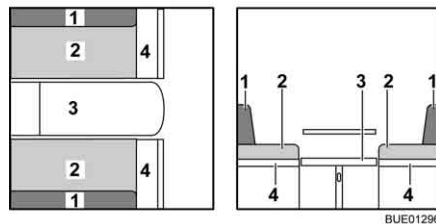

Fig. 119 During conversion
- Widen bench seat (Fig. 119,4).
- Remove the back cushions (Fig. 119,1) and lay them aside.
- Pull the seat cushions (Fig. 119,2) into the centre.